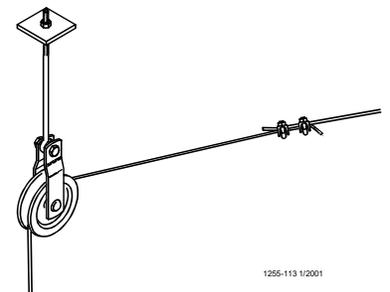

Figure 8. Full Line Suspension Kit
2. Thread the end of the 3/32" or 1/8" cable through the pulley toward the winch. Clamp this end to the 3/16" winch cable about 6" (150 mm) from the last pulley, using a 3/16" cable clamp. See **Figure 8 on page 12**.